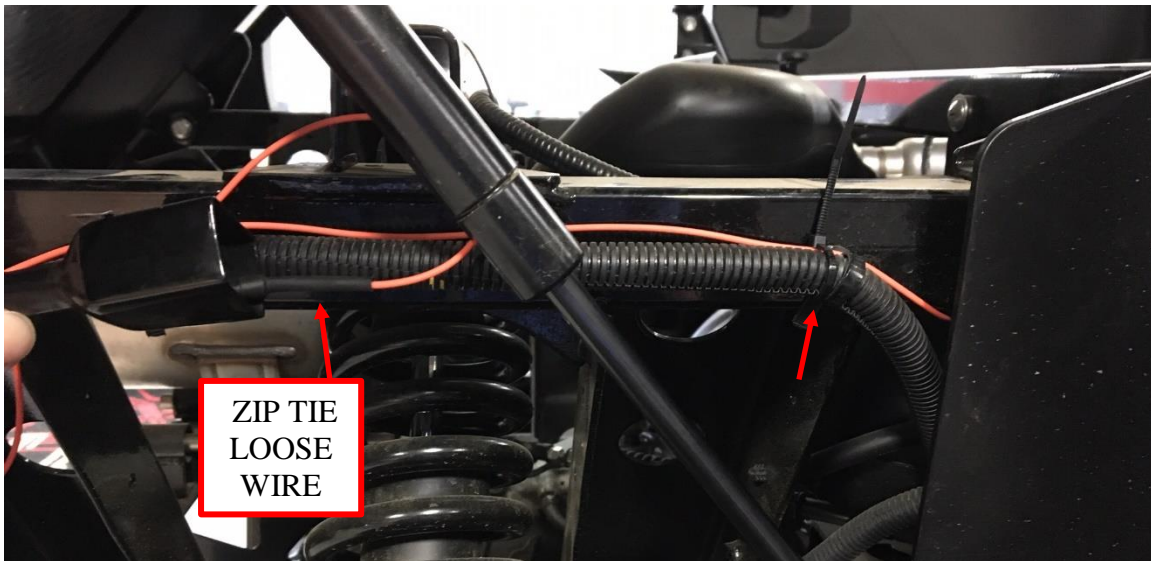

Figure 22: Orange (accessory) harness wire routing and connection.
18. Secure the orange wire from the Audio Mini harness to the factory wire loom as shown in Figure 22. Then plug the male bullet connector on the end of the orange wire into the mating female bullet connector on the brown wire with white stripe. The female bullet connector on the Kawasaki OEM harness is located under a rubberized plastic cover. **Note: Secure any loose wire so that it will not get caught on any moving parts (gas struts, bed, etc.).**